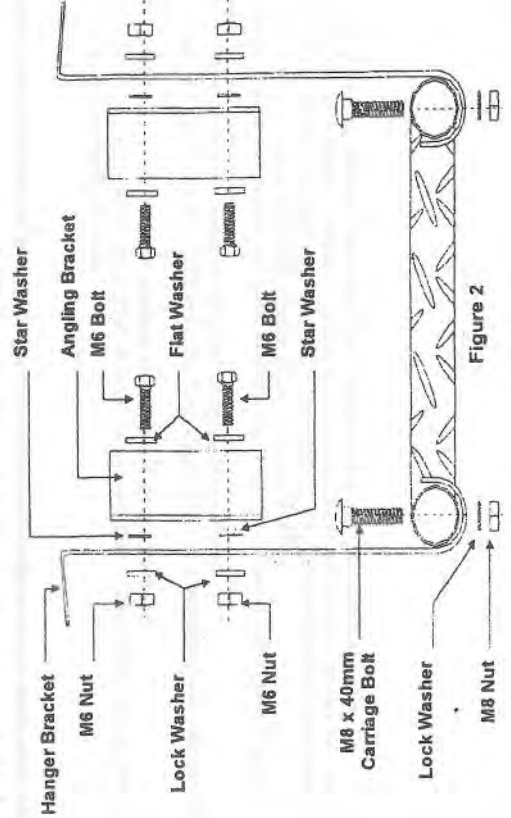

Figure 2
4. Pre-assemble the Angling Bracket to the Hanger Bracket using the Bolts, Washers, Star Washers, Flat Washers, and Nuts provided (Figure 2).